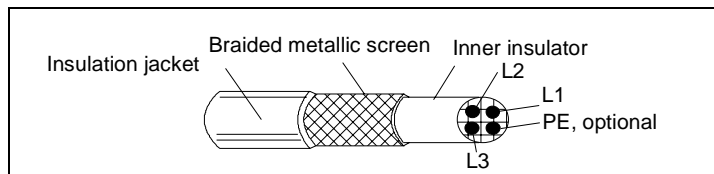

Figure 21 Effective motor cable screen (e.g. Ölflex-Servo-FD 780 CP, Lappkabel or MCMK, NK Cables).
The general rule for cable screen effectiveness is: the better and tighter the screen of the cable, the lower the radiated emission level. Example of an effective construction is presented in Figure 21.
* Effective motor cable screen is required, according to Figure 21.
For ACS 141-4K1-1 and ACS 143-4K1-1, a cable shown in Figure 21 is required.
With input filters ACS100-FLT-C or ACS140-FLT-C conducted emission complies with the limits for unrestricted distribution class in First Environment as specified in EN 61800-3 (EN 50081-1) provided that the motor cable has effective screen (see Figure 21) and maximum length is 30 m.
The motor cable lengths have to be limited as specified in Table 10 and the cable must have effective screen according to Figure 21. At the motor end, the cable screen must be earthed 360 degrees with an EMC cable gland (e.g. Zemrex SCG screened cable glands).